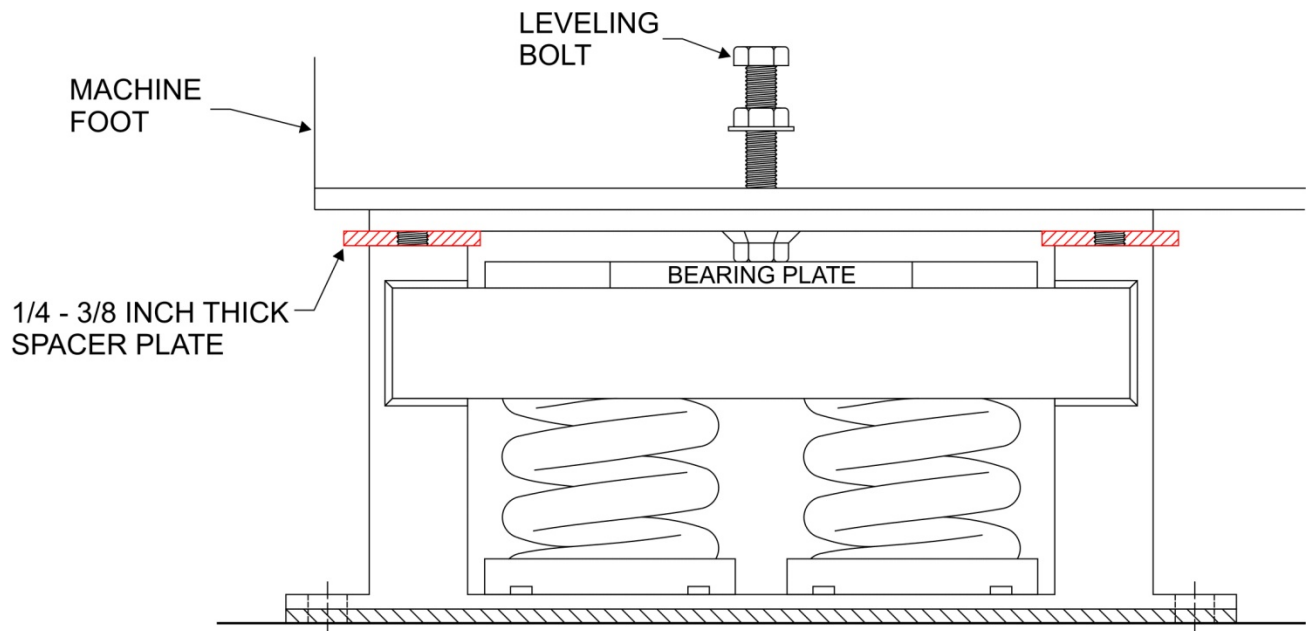

Figure 2
5. Spacer plates 1/4 - 3/8 inch thick (supplied with the isolators) should be inserted in between the Isolator's top and side plates. This will make it easier to adjust the spring height to the desired height and provide more stability when the machine's weight is transferred from the jacks/blocks to the Isolator. (See Figures 2 and 3)